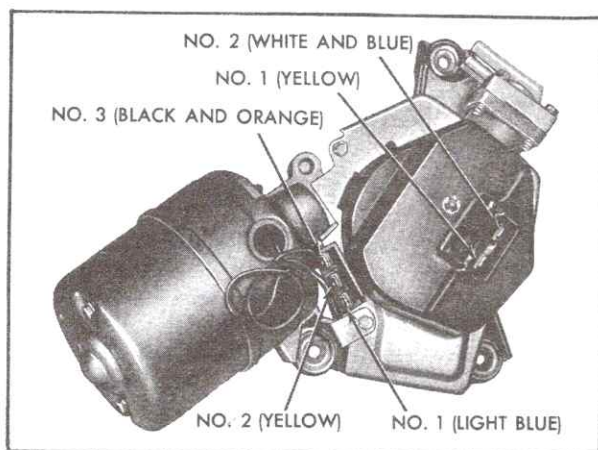

Fig. 12-32 Wiper Unit Terminals
c. To check "Lo" speed operation, connect a second jumper wire from No. 3 terminal, Fig. 12-32, to ground.